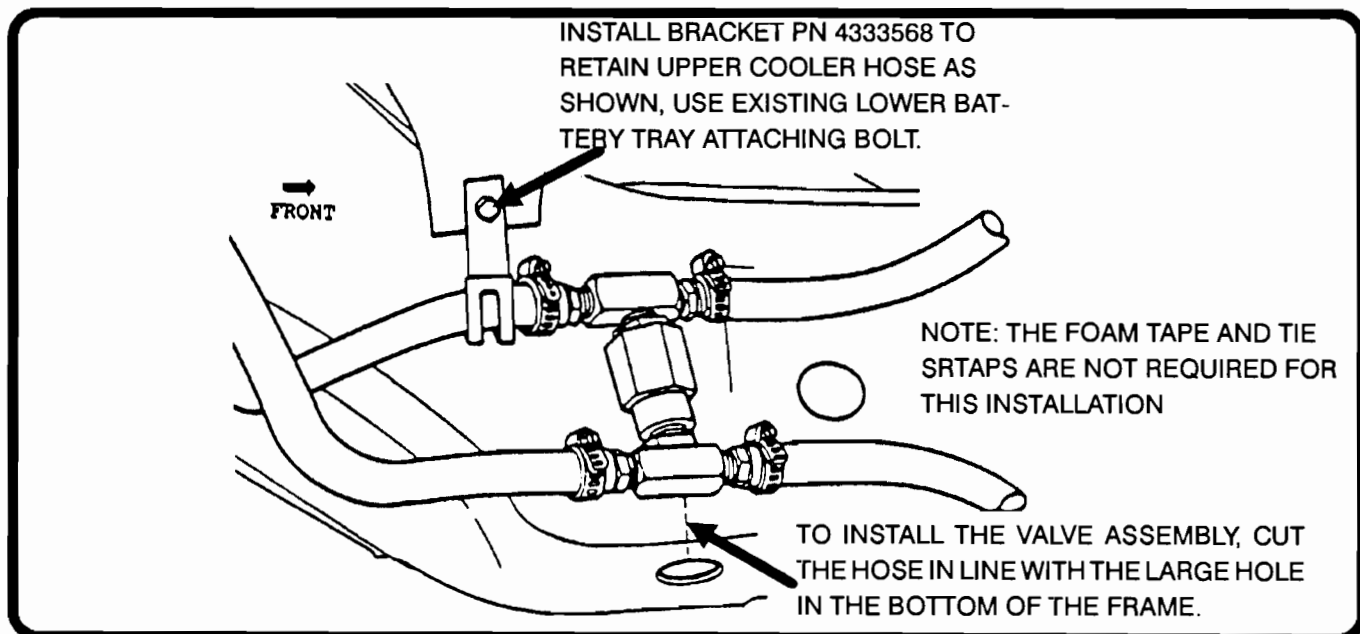

Figure 59
2. Mark the cooler hose in line with the center of the large hole in the bottom of the frame rail, as shown in Figure 59.
7. Install bracket, OEM part number 4333568, to retain the upper cooler hose, using the existing lower battery tray bolt, as shown in Figure 59.
9. Tighten all clamps, and position the valve and hose assembly in the clip as shown in Figure 59.